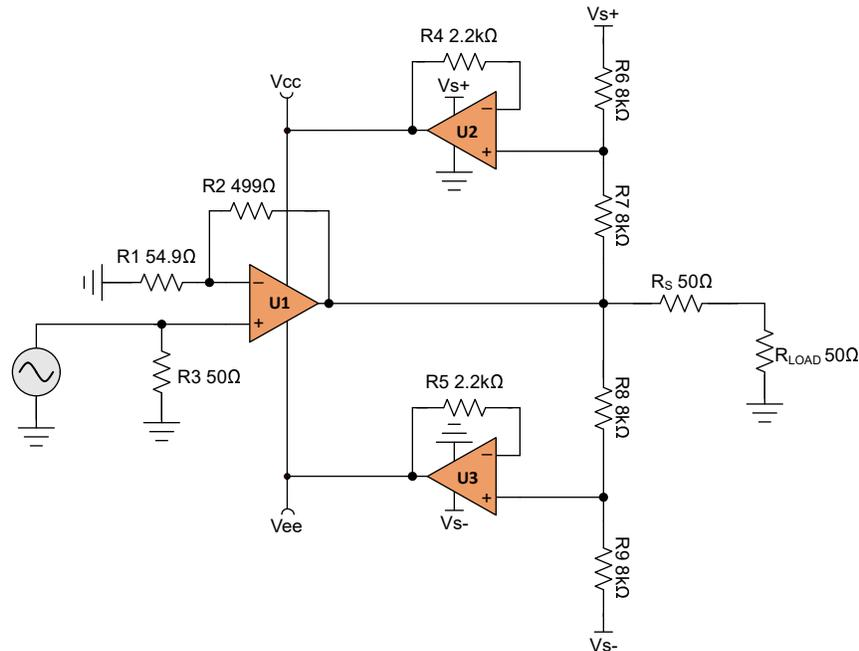

Figure 2-1. Bootstrapped High-Output Voltage Extension Circuit (Simplified)
Figure 2-1 shows a simplified schematic of the TIDA-060033 high-voltage extension circuit.
- R_L = Total Resistive load at the output of the amplifier. In Figure 2-1, R_L is equal to the combination of the series output resistor (R_S) and the load resistor (R_{LOAD}).